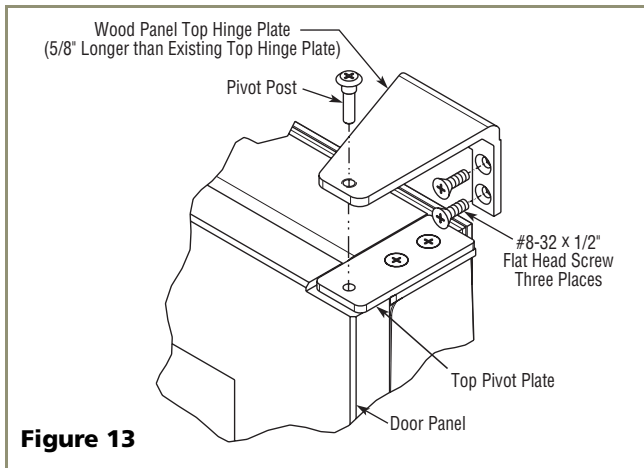

Figure 13
2. Install the new Replacement Top Hinge onto the unit (see **Figure 13**).